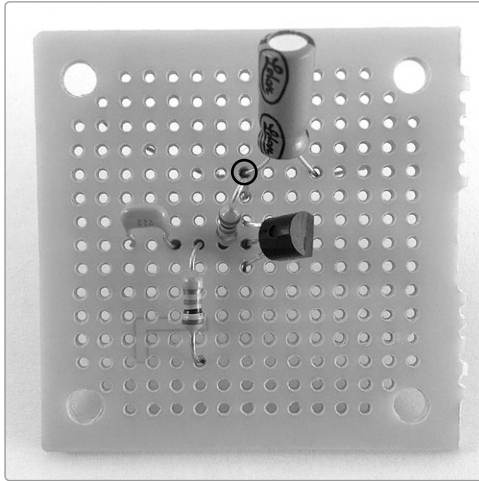

FIGURE 12-13: *The 10 μF capacitor in place*
- Step 15** Now install the 10 μF output capacitor, keeping in mind that the stripe on the cap's body indicates the negative leg. Mount this cap with the positive leg in the first open hole above the transistor and insert the negative leg three columns to the right, as shown in Figure 12-13. Solder the positive leg to its pad.